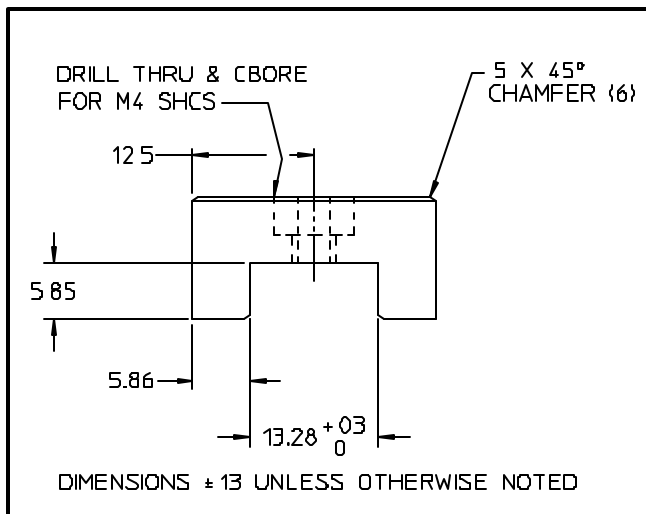

Fig. 2-4
6. Machine cross section of this bar per Fig. 2-4.